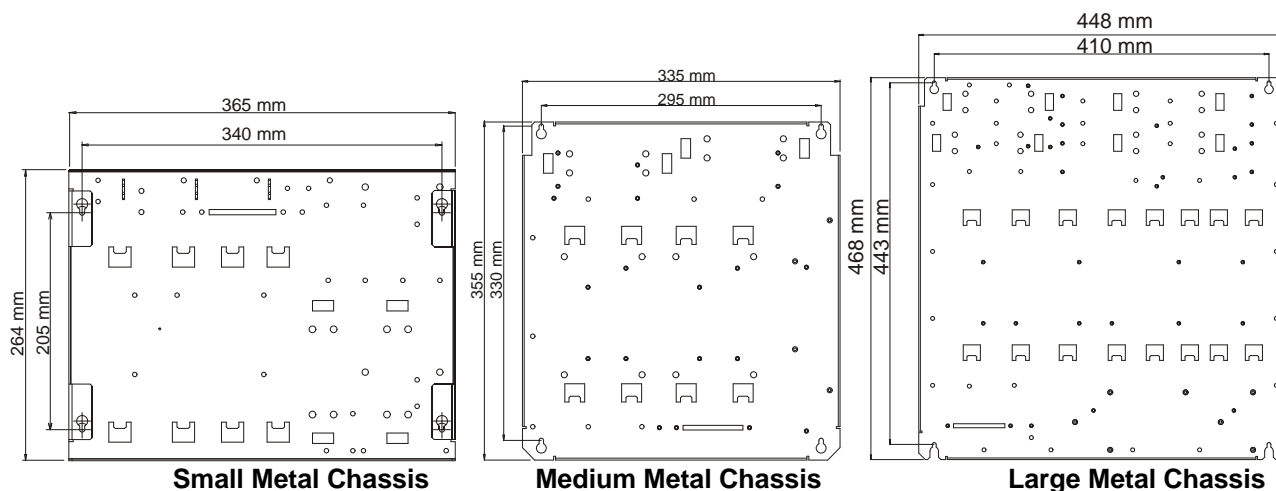
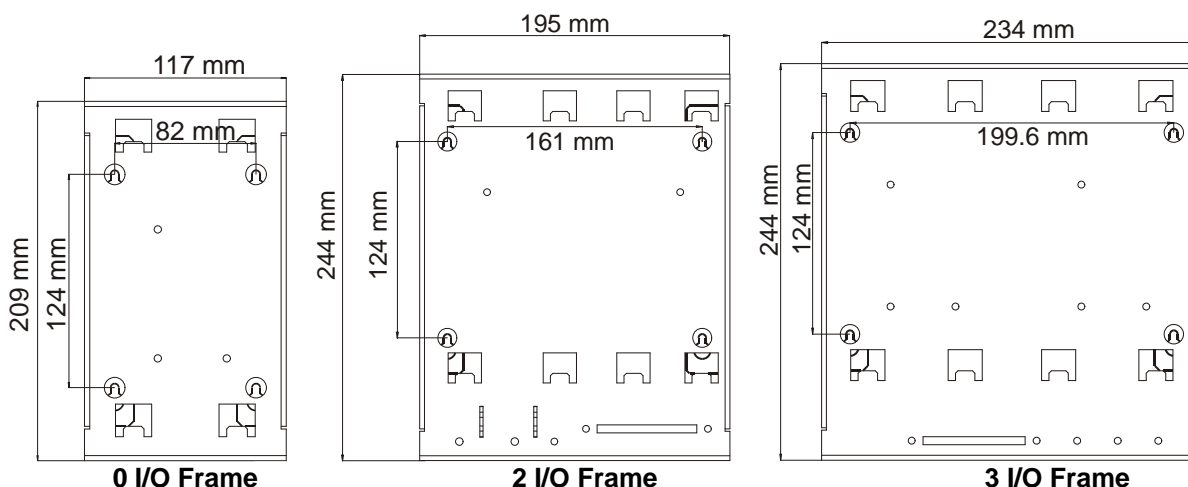
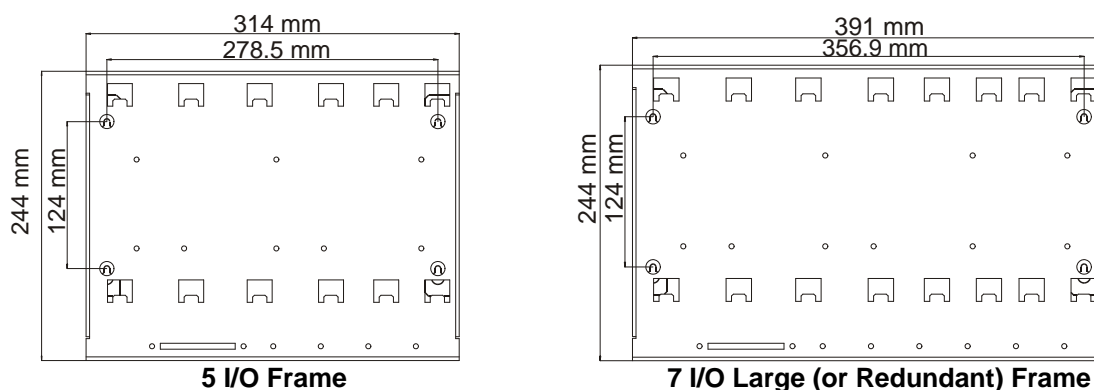

Figure 2-1 Small/Medium/Large Metal Chassis Installation Dimensions and Screw Holes for Installation
Figure 2-2 No I/O, 2 I/O, and 3 I/O Frame Installation Dimensions and Screw Holes for Installation
Figure 2-3 5 I/O and 7 I/O Frame Installation Dimensions and Screw Holes for Installation
Four holes are provided, one in each corner of the RTU frame, for wall mounting the RTU. Figure 2-1, Figure 2-2, and Figure 2-3 show the dimensions of the various frames/metal chassis and the distances between the holes. For convenient installation of the ACE3600 RTU on a wall, allow an additional 6 cm (2.4") (in W, H) and 7 cm (2.75") (in D) around the plate.
- 1) Drill four holes in the wall at the horizontal and vertical distances shown in Figure 2-1, Figure 2-2, and Figure 2-3.